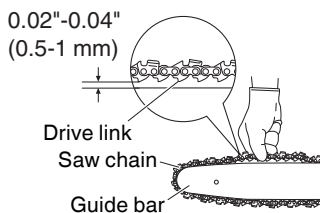

Fig. 11
6. Checking the saw chain tension (Fig. 11)